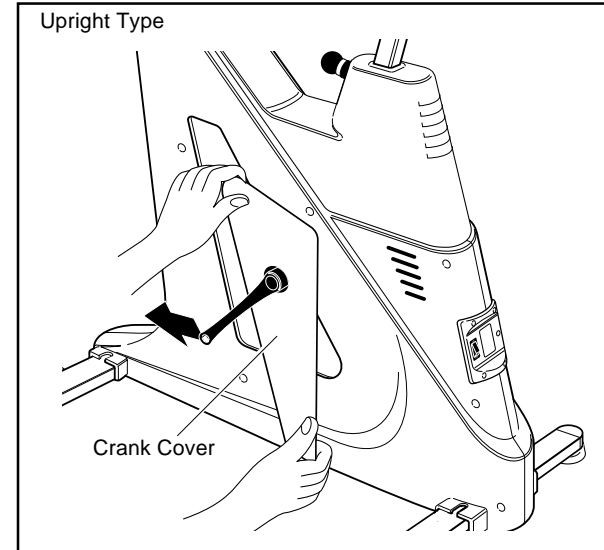

Fig. 2
1. Pass the crank through the hole on the crank cover, and fix the crank cover onto the frame cover with screws. (Figs. 2 & 3)